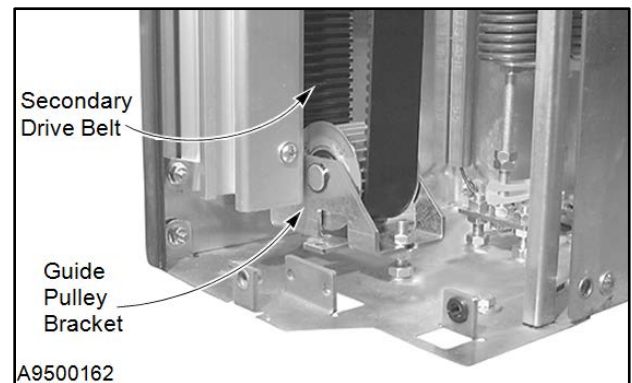

Figure 36
2. Inspect the entire length of both secondary drive belts. The belts should not be frayed, cracked, worn, or damaged. Also check for any damaged or missing teeth. Replace secondary drive belts if necessary. (See Figure 36.)